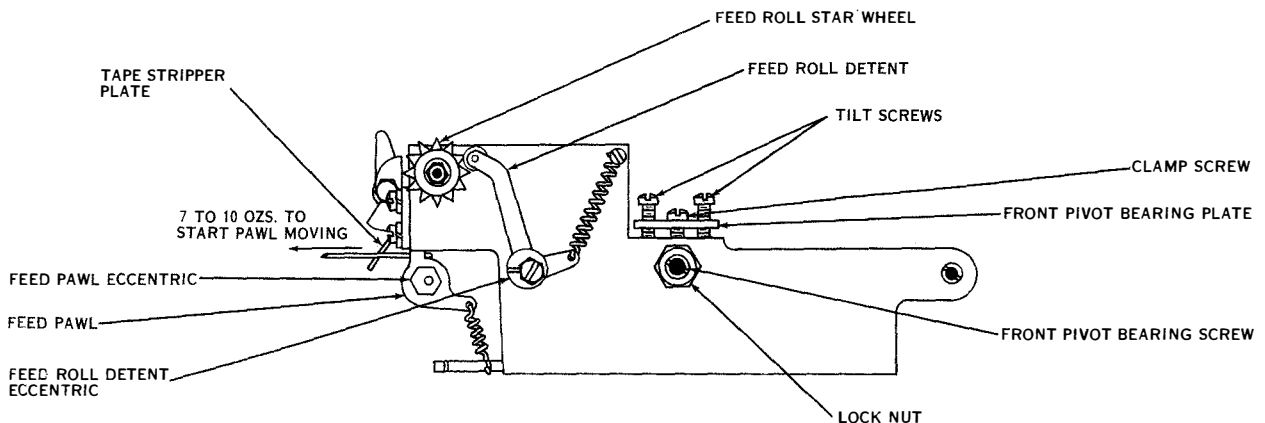
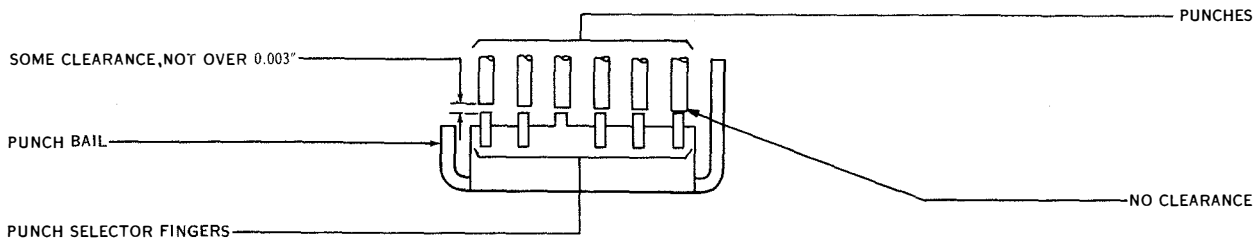

Figure 7-53. Tape Feed Pawl Spring Tension
Figure 7-54. Punch Bail Front Pivot Bearings
(52) PUNCH BAIL BEARINGS. (See figures 7-53 and 7-54.)—The punch bail should have some end play on its pivot bearing screws, not over 0.005 inch. To ad-
(53) PUNCH BAIL FRONT PIVOT BEARING PLATE. (See figures 7-53 and 7-54.)—The punch selector fingers should be positioned to meet the following requirements:
(a) As viewed from the left, with the punch selector fingers held against their respective punches, the outer edges of the front and rear fingers should be within the outer edges of their respective punches (see figure 7-54). To adjust, loosen the front pivot bearing screw lock nut and tilt the front pivot bearing plate to the left or right by means of the tilt and clamp screws (see figure 7-53).
(b) As viewed from the left, there should be some clearance, not more than 0.003 inch, between the rear selector finger and its punch when the front selector finger just touches its associated punch (see figure 7-54). To adjust, operate the punch bail by hand until the punch selector fingers almost touch the punches. Position the front pivot bearing plate vertically by means of the tilt and clamp screws. Recheck (a) above and tighten the front pivot bearing screw lock nut.
(56) **FEED ROLL DETENT (PRELIMINARY).** (See figures 7-53 and 7-57.)—The feed roll should be positioned so that a pin on the feed roll lines up with the center hole of the feed roll positioning gauge. To check, place the punch bail in its operated position and insert the No. 73517 feed roll positioning gauge in the punch block guide slot so that the projection on the gauge stops against the feed hole punch. To adjust, position the feed roll by means of the feed roll detent eccentric, locating the eccentric so that the high part is toward the left (see figure 7-53).
(58) **FEED PAWL SPRING TENSION.** (See figure 7-53.)—A tension of seven to ten ounces should be required to start the feed pawl moving away from the
(66) FEED PAWL ECCENTRIC (FINAL). (See figures 7-53 and 7-58.)—With the high part of the feed pawl eccentric bushing toward the left and the tape
(68) TAPE STRIPPER PLATE. (See figure 7-53.)